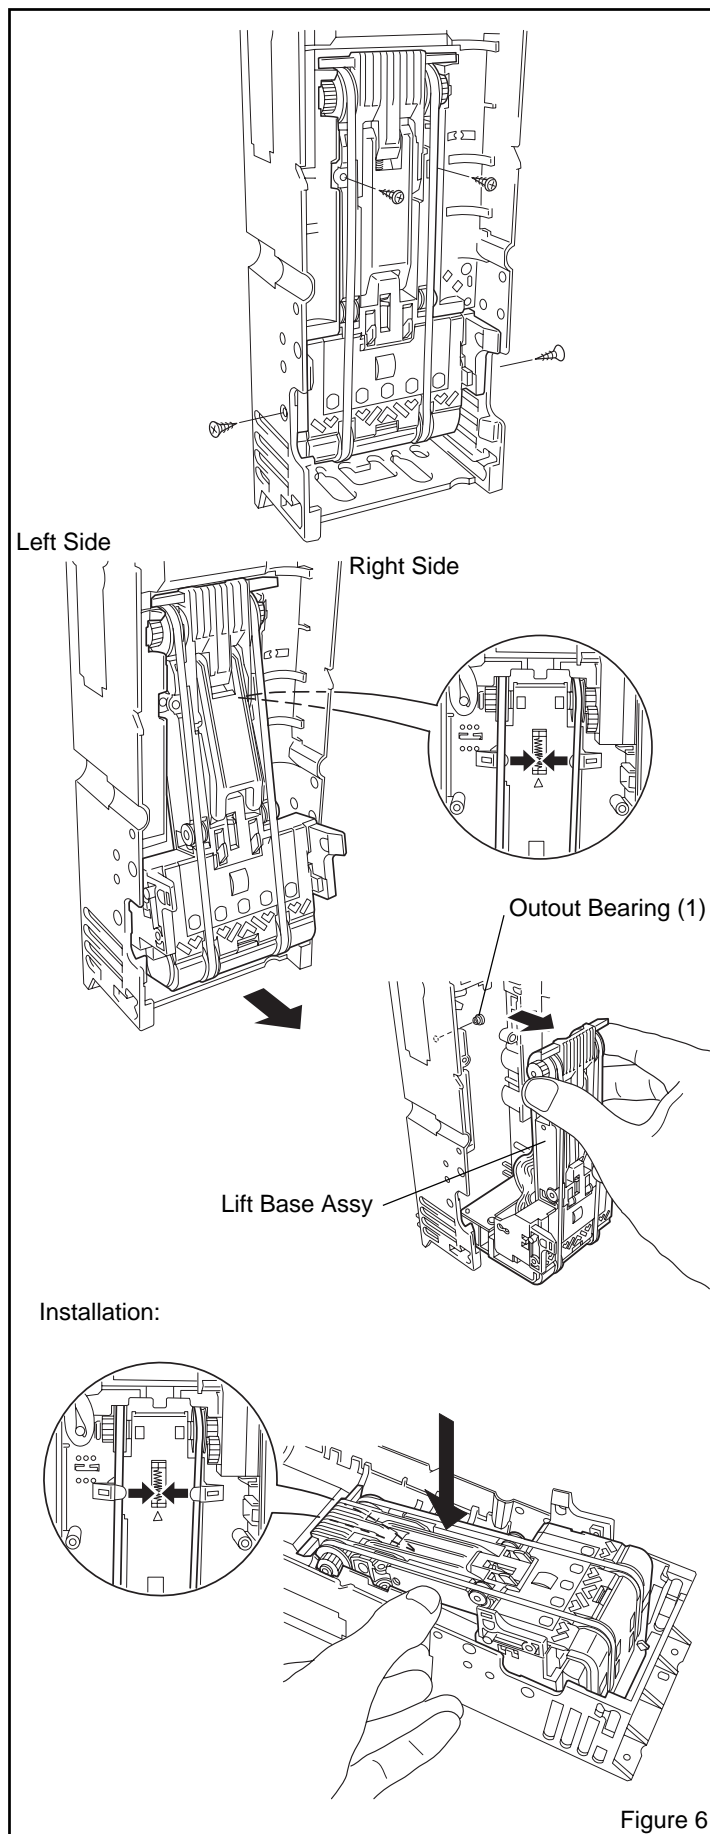

Figure 6
3. When pulling out the lift base assy to the position as shown in Figure 6, hold the gear section and remove the right side of the assembly first. Pull the left side out (that is engaged with the left output shaft) toward you. The output bearing (1) located on the left side needs to be removed together with the lift base.